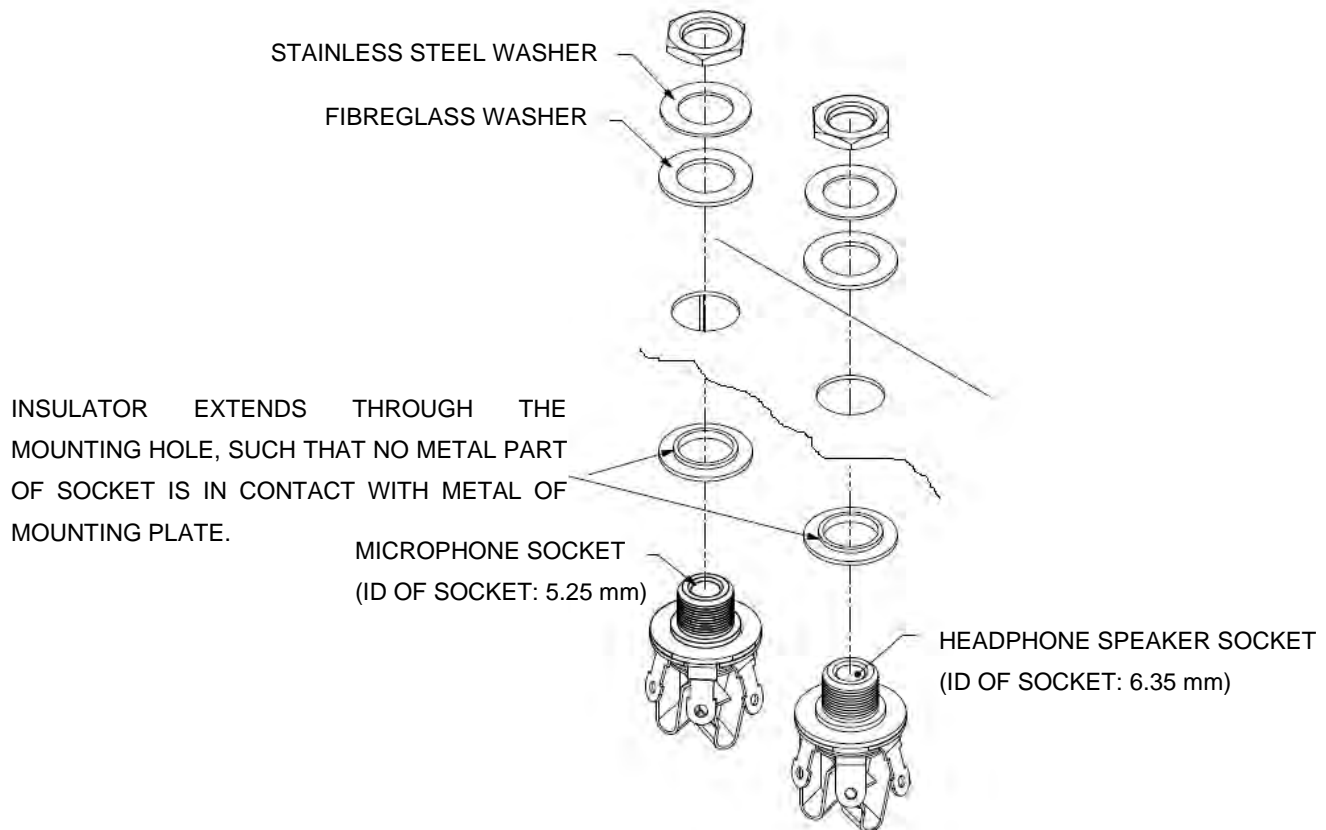

Figure 68: Headphone socket installation.
- Observe the correct washer / insulator placement (refer to Figure 68).